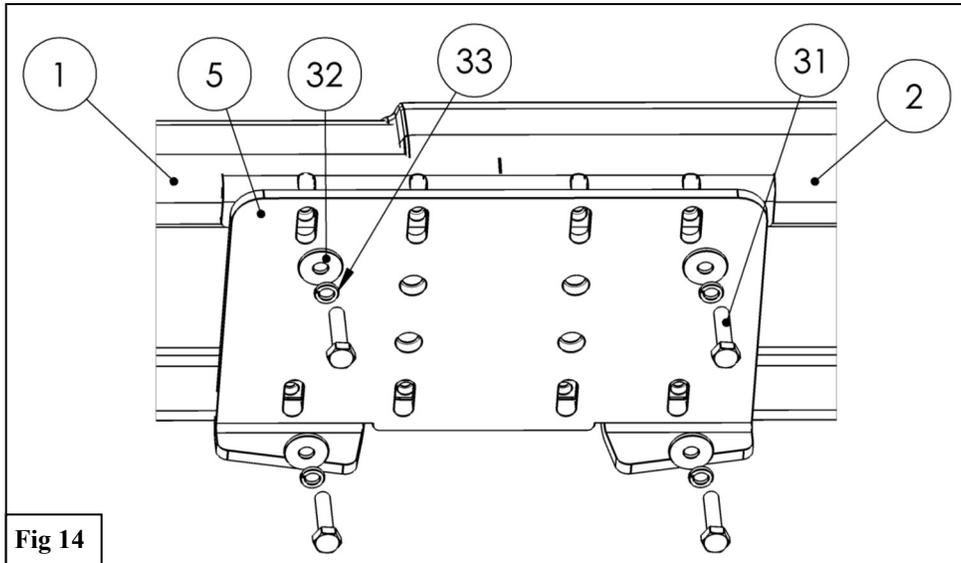

Fig 14
12. Obtain the Link Plate (5) and secure it to the Step Bar Assembly (1 & 2) using the supplied black M6 Hardware. See **Figure 14**. *Note:* Driver side shown.